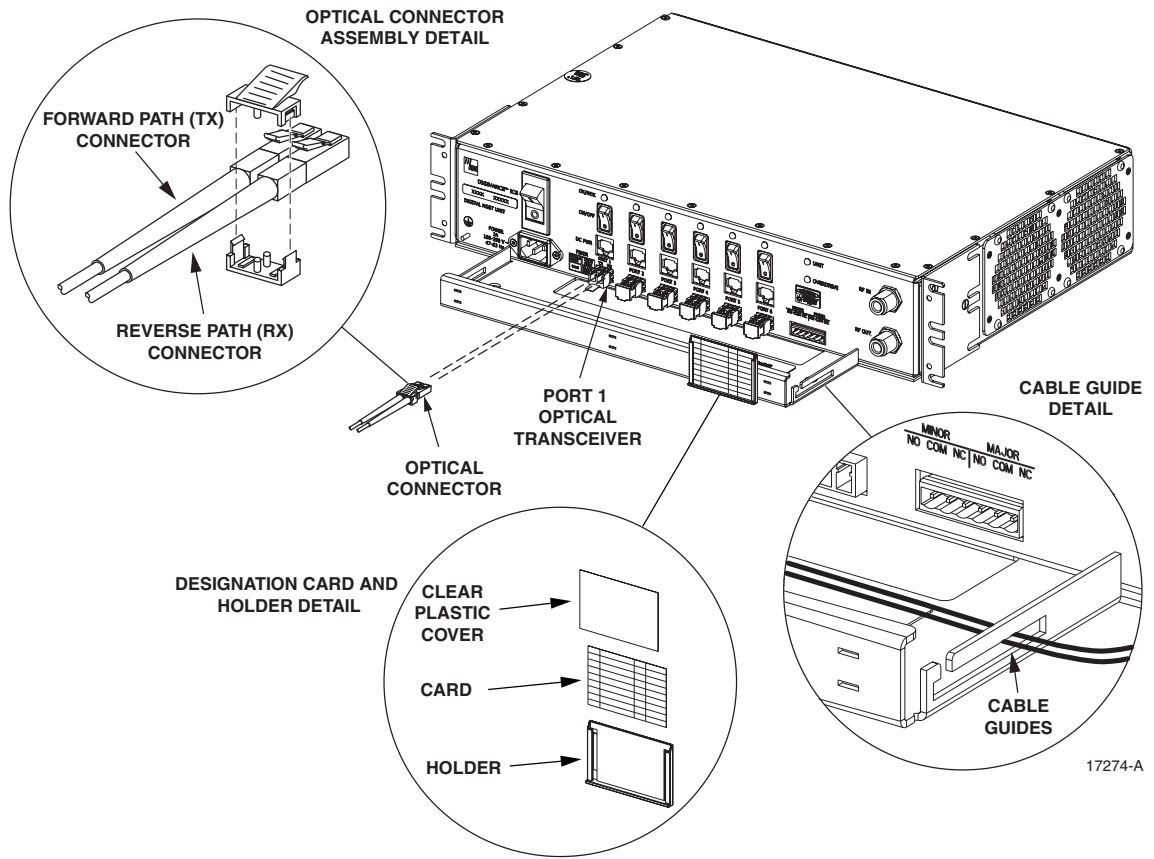

Figure 19. Ports 1–6 Fiber Optic Cable Connections
3. Terminate each optical fiber with a field-installable LC type fiber optic connector as shown in Figure 19. Follow the instructions provided by the connector manufacturer for installing the connector.
6. Use the plastic joiner provided with the LC connectors to join the DHU Port 1 forward and reverse path connectors together (see Figure 19). Make sure the **forward path** and **reverse path** connectors are oriented as shown.
8. Clean each connector (follow connector supplier's recommendations) and then insert the optical fiber connector pair into DHU optical port 1 (see Figure 19).
9. Place the optical fibers within the cable guides provided on the cable management tray (see Figure 19) and then dress and secure the fibers at the DHU per standard industry practice.
11. Use the designation card provided (see Figure 19) to indicate the location and name of the DRU or DEU that is connected to each optical fiber pair. The designation card holder may be attached to any convenient flat surface such as the DHU cable management tray